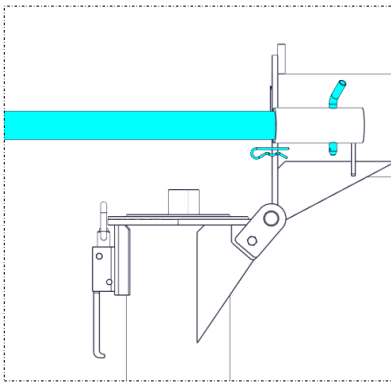

Figure 4.13
- 2) Insert the lever pipe into the receiver tube on the upper section of the discharge auger, installing the bent pin and hair pin to secure it in place (Figure 4.13).